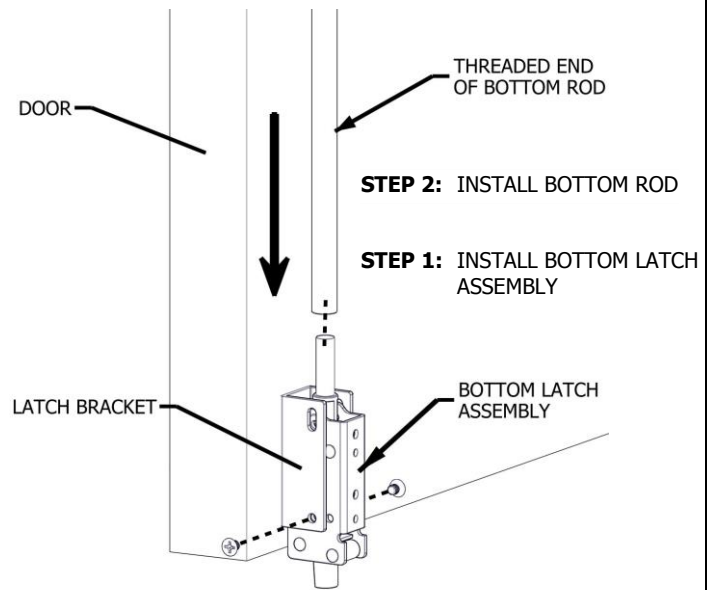

FIGURE 1
STEP 1: Install bottom latch assembly to bottom latch bracket using provided screws and bottom two holes in bracket (see figure 1)